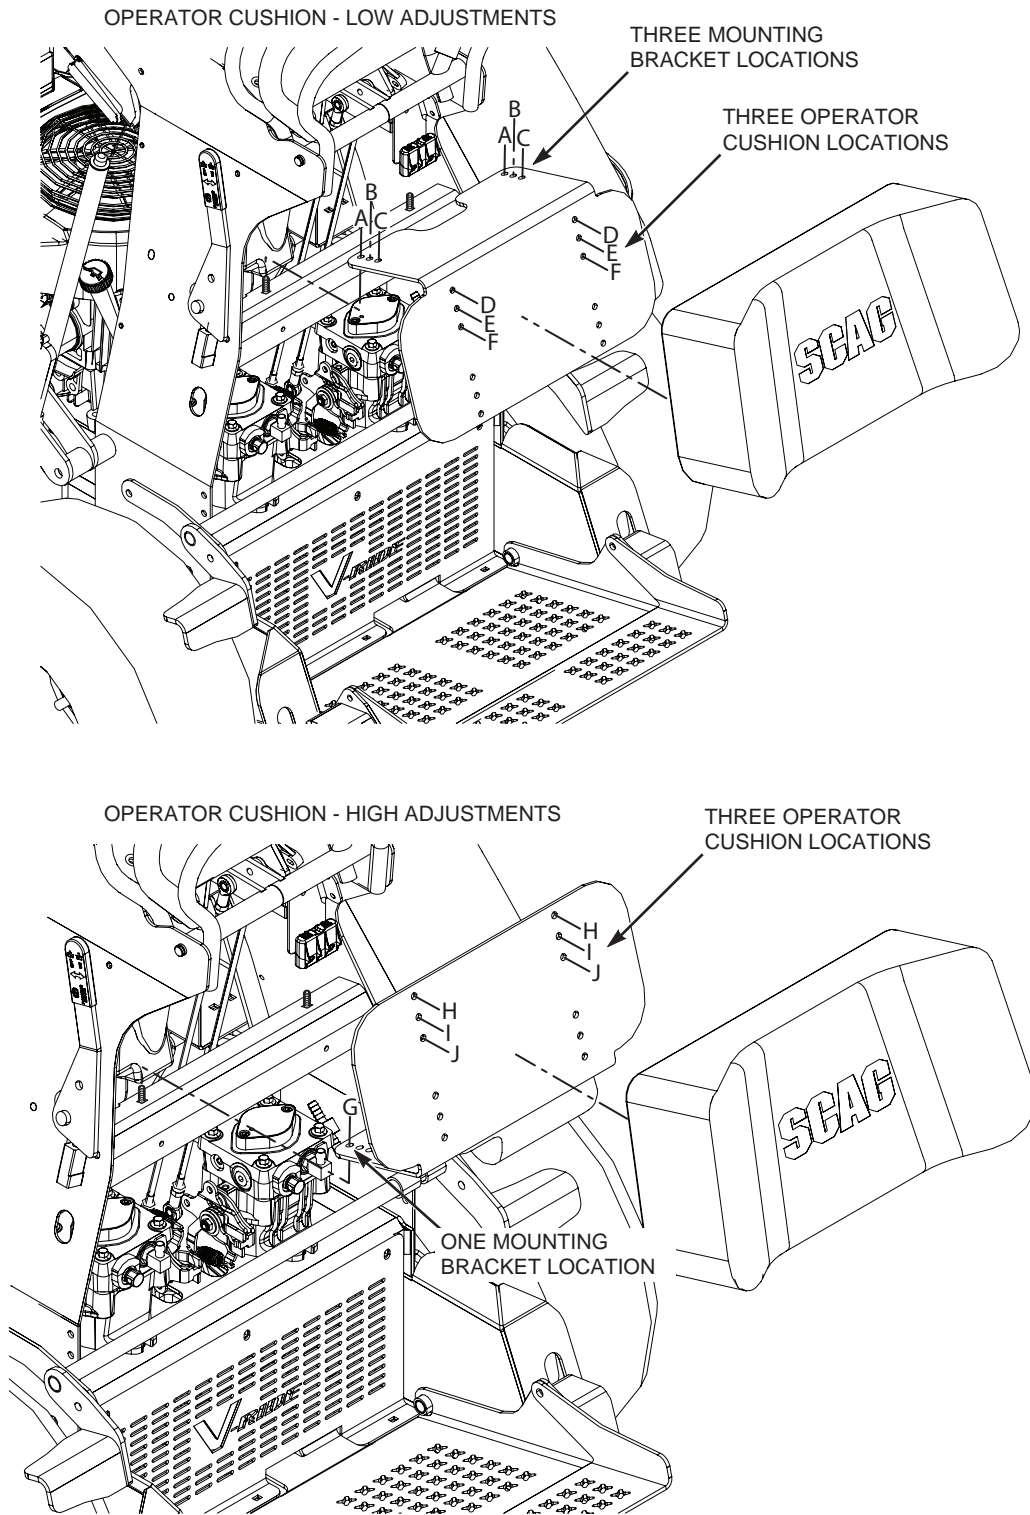

Figure 6-12. Operator Cushion Adjustment
The operator cushion can be mounted in twelve (12) different positions to fit a wide range of operators. See Figure 6-12.
3. Install and secure the mounting bracket in the desired operating location. Locations A, B or C for lower mounting positions or rotate the mounting bracket 180 degree and install in G for higher mounting positions. See Figure 6-12.
4. Install and secure the operator cushion in the desired location. Locations D, E or F for the lower mounting positions or H, I or J for the higher mounting positions. See Figure 6-12.